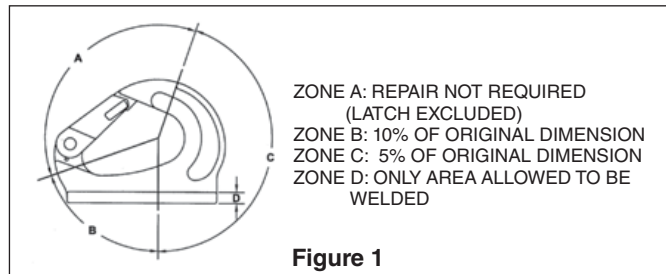

Figure 1
- Never use a hook that is worn beyond the limits shown in Figure 1.
- Remove from service any hook with a crack, nick, or gouge. Hooks with a nick or gouge shall be repaired by grinding lengthwise, following the contour of the hook, provided that the reduced dimension is within the limits shown in Figure 1. Contact Crosby Engineering to evaluate any crack.
- Always make sure hook supports the load. The latch must never support the load (See Figures 1 & 2).